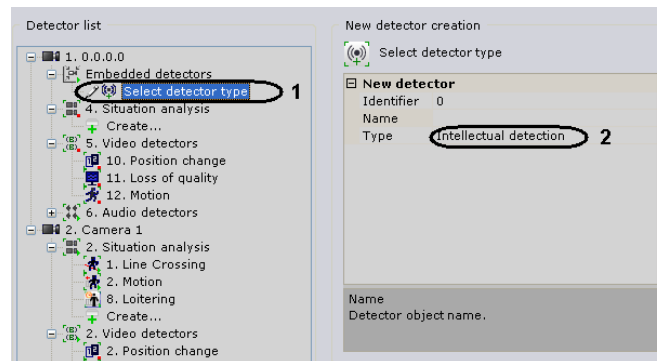

Fig. 6.5—20 Creating a Sony Ipela detector
2. Highlight the **Select detector type** link which appears (see Fig. 6.5—20, 1).